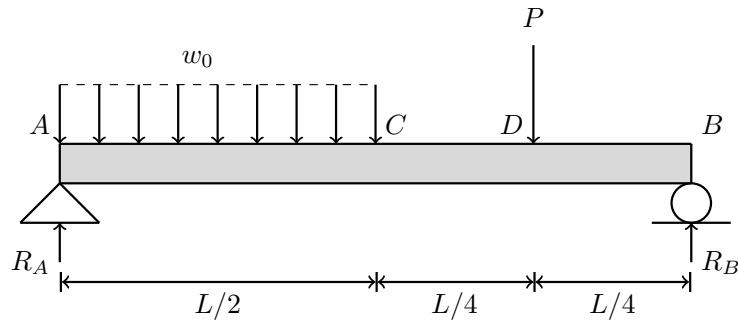

Figure 8
5. Consider a simply supported beam of length  $L$  subjected to applied load as shown in Fig. 8. Calculate the reaction forces, shear force, and bending moment at any point along the beam.